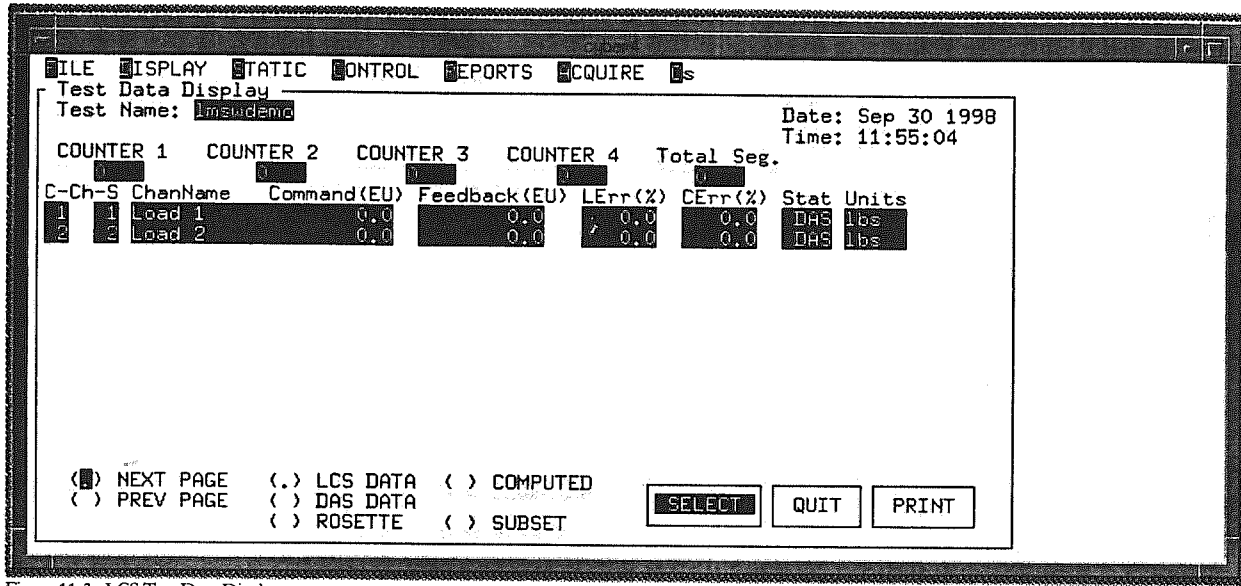

Figure 11-3. LCS Test Data Display
- Step 2:** Select the LCS radio button (which is the default selection), and press **[RETURN]**. The screen shown in Figure 11-3 is displayed: